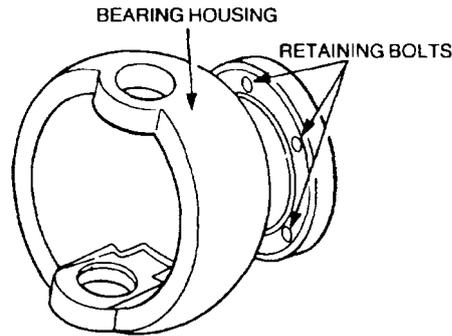

Figure 256 Removing the Bearing Housing
- i. Remove the bolts retaining the bearing housing to the axle case and remove the bearing housing (Figure 256).